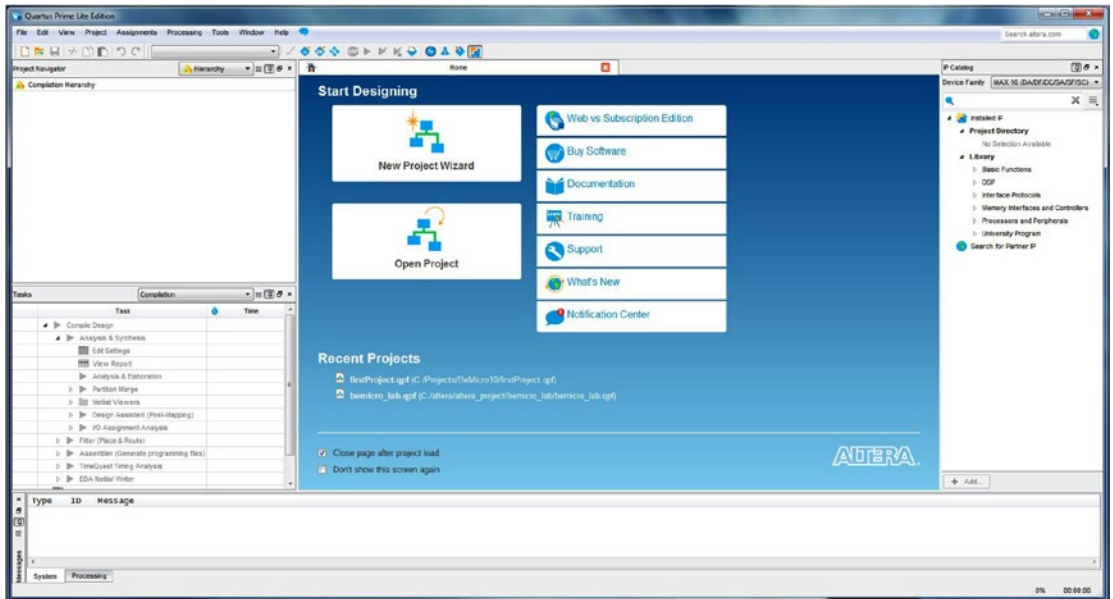
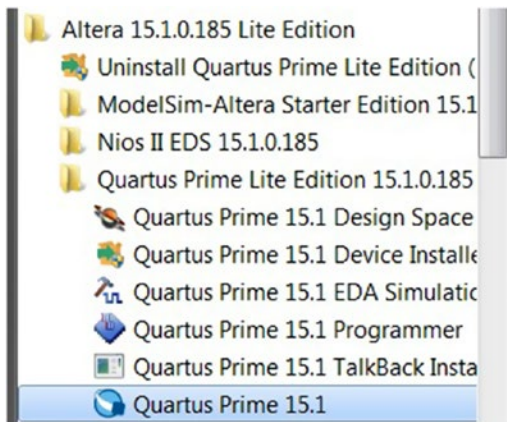

Figure 3-21. Quartus Prime Lite Edition
Figure 3-22. Windows Start menu
10. Quartus Prime Lite Edition should be brought up in front of you, as in Figure 3-21. If it isn't, you can bring it up from your Start menu. In the Start menu, Quartus Prime 15.1 is your entry point. You should be able to find it as in Figure 3-22.